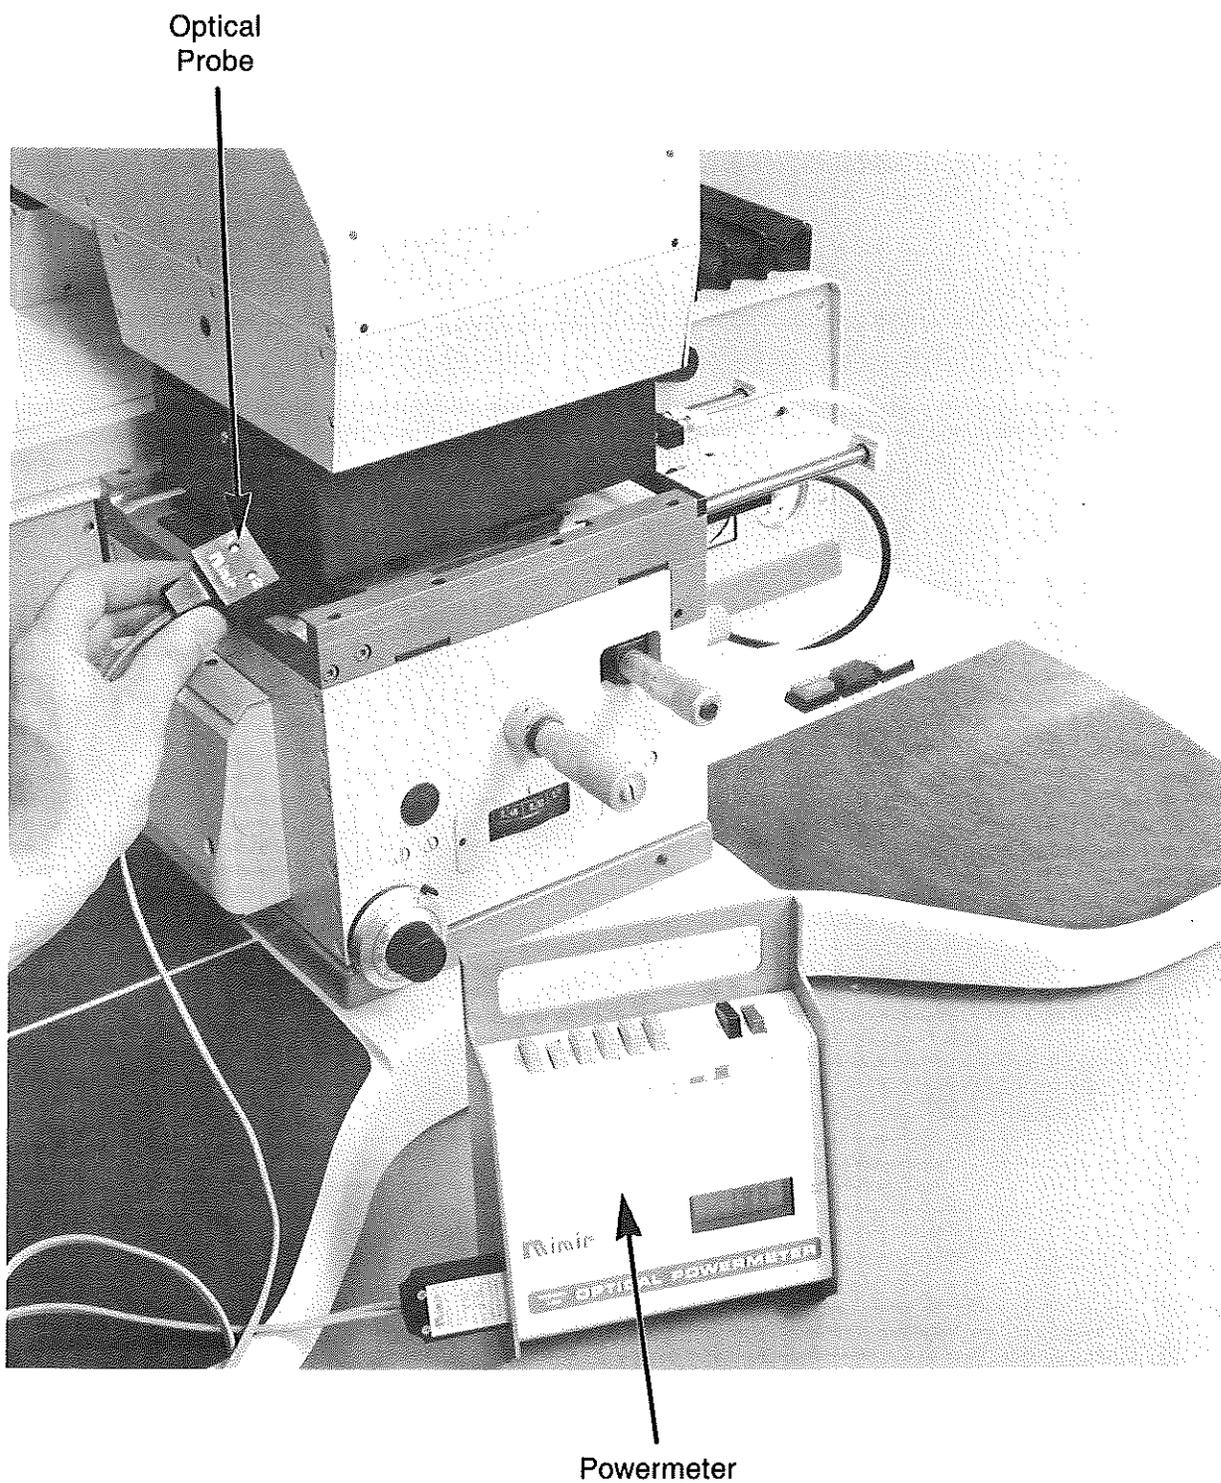

Figure 4-1 Measuring Light Intensity
Figure 4-1 shows a setup which can be used to measure light intensity and uniformity.
9. Place a piece of black paper, approximately 5" X 5", on the chuck to avoid scratching its surface. Place the optical probe on the paper (see Figure 4-1).
With the optical probe, measure the light intensity at different points of the wafer plane (see Figure 4-1), for example at the 12, 3, 6, and 9 o'clock positions, at the center, and at several points in between. Using the high and low readings (H and L), determine that the uniformity, as calculated by the formula: